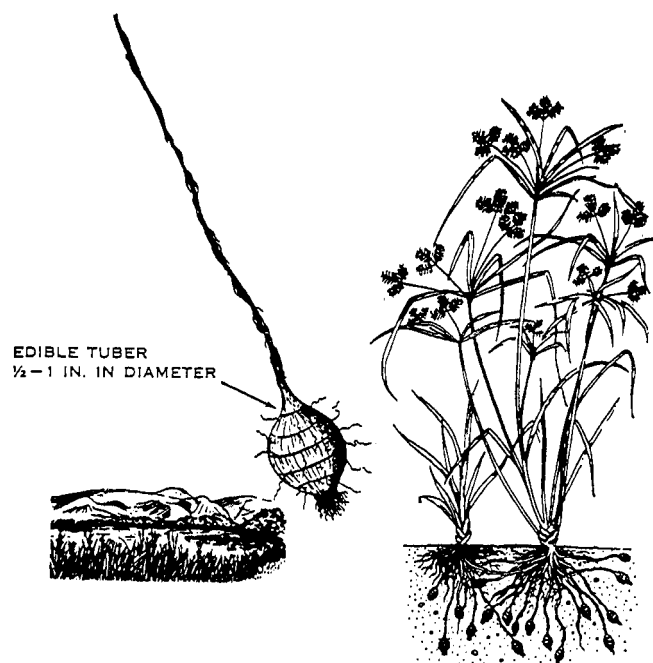

Figure 6-9.—Nut grass.
4. **NUT GRASS.** Nut grass is widespread in many parts of the world. Look for it in moist, sandy places along the margins of streams, ponds, and ditches. It occurs in both Tropical and Temperate climates. The grass differs from true grass because it has a three-angle stem and thick underground tubers that grow 1/2 to 1 inch in diameter. These tubers are sweet and nutty. Boil, peel, and grind them into flour. This flour can be used as a coffee substitute. (See fig. 6-9.)